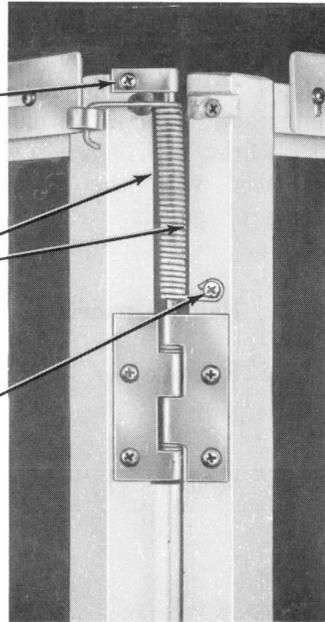

Fig. 2—Installation of Top Hinge Assembly
(3) Check spring of top hinge assembly. Replace if defective (Fig. 2). Replace all earlier type assemblies with the new top hinge assembly per Fig. 2.